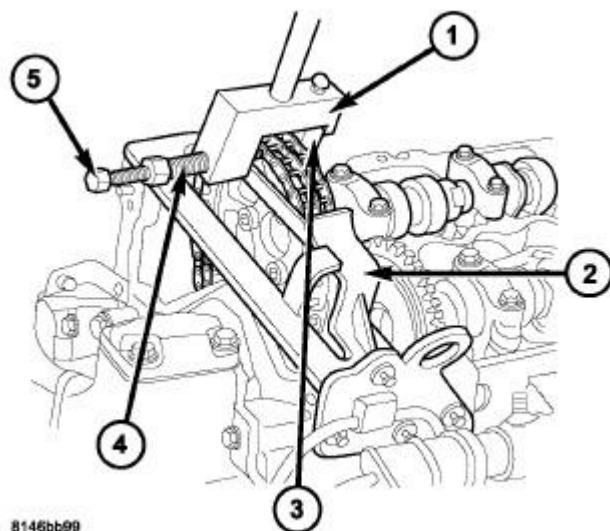

Fig. 289: CHAIN BREAKER
7. Assemble special tool #9312-1 (1) using 9312-3 (5) and 9312-4 (4). Install insert #9312-13 (3) and retain with screw provided. See Fig. 289 .
NOTE: when installing special tool #9312-1 onto timing chain link, be sure to back off the smaller nut of the thrust pin #9312-3 until the pin is recessed inside of spindle 9312-4. Screw the thrust spindle #9312-4 in until it is seated and aligned properly over the left timing chain pin of a chain link, as viewed from behind the engine. See Fig. 289 .
8. Screw the thrust pin in and separate the timing chain. See Fig. 289 .
11. Connect new timing chain and old timing chain with assembly link, assembly plate and locking element, and secure. See **Fig. 289** .